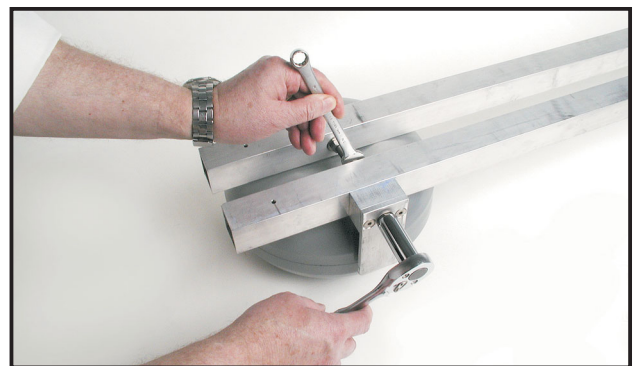

FIGURE 3. Tightening Lock Nuts.
- 5) Alternating from one stone to the other, tighten the outer adjustment nuts until the stone-edge locator touches the stone's outer edge. Lock the jig position by tightening the two inner lock nuts as shown in Fig. 3. After locking, rotate each stone one turn to verify that the stone edge locator just contacts the stone circumference. The jig is now in adjustment.